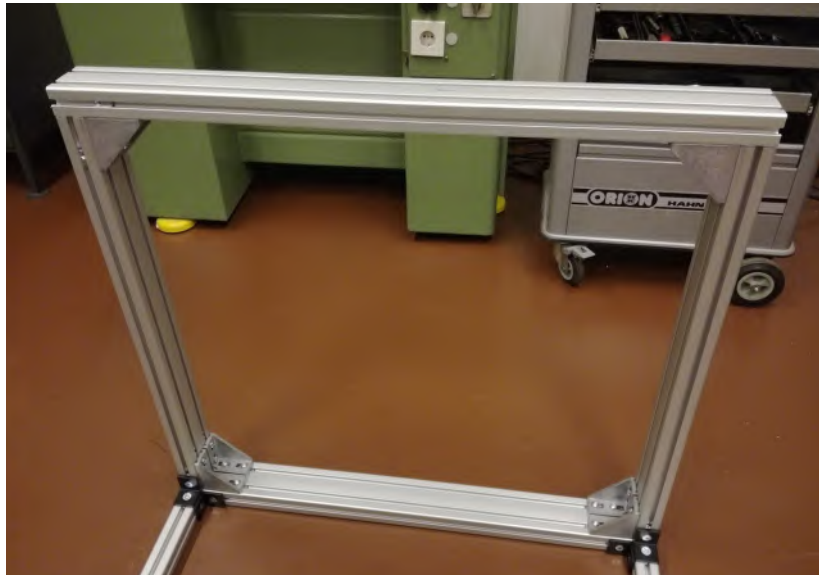

Figure 14: Assembled structure after step 4.
- 4.3. Now position the 880mm aluminum frame on top of the standing structure and connect the angles as seen in Figure 14&15. Please note that there are two slot nuts on the left side (not on right). These will be used in the next step to connect the only remaining aluminum frame 40x40.